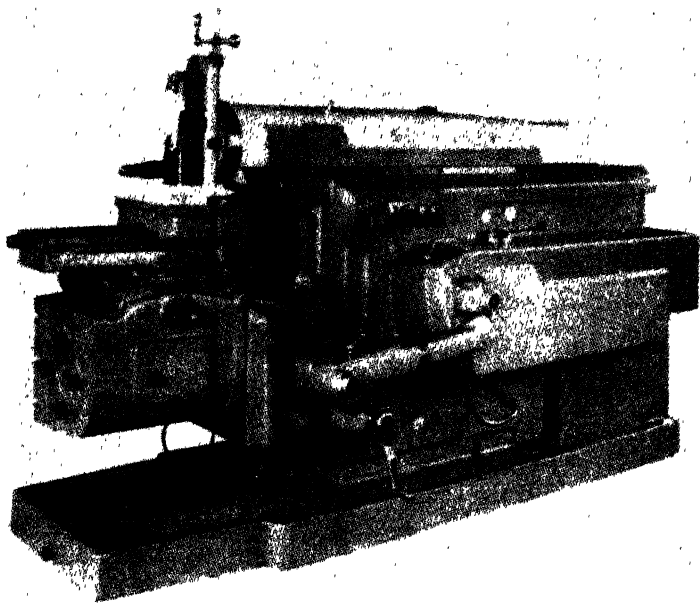

Fig. 1-4. A shaper. (*The Cincinnati Shaper Company*)
*The Shaper.* The shaper (Fig. 1-4) is ordinarily used for finishing flat or partly curved surfaces of metal pieces few in number and